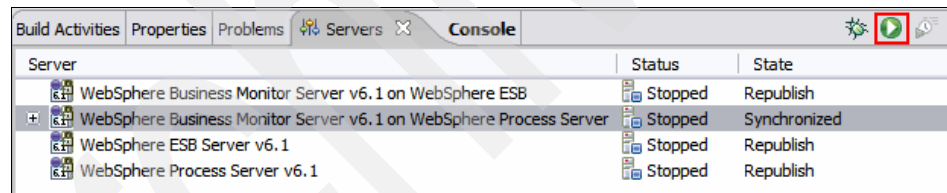

Figure 3-9 Servers
- a. In the Business Monitor perspective (Figure 3-9), click the **Servers** tab and select **WebSphere Business Monitor server v6.1 on WebSphere Process Server**. Then click the **Start** icon (green circle with white arrow button).